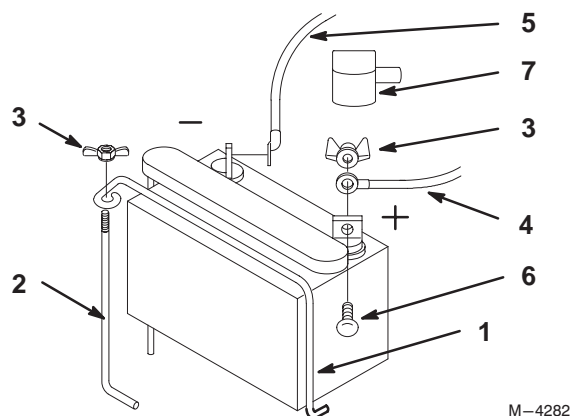

Figure 5
1. Mount the battery on the battery support with the terminal posts toward the gas tank (Fig. 5).
2. Secure the battery with the clamp, support rod, and wing nut (Fig. 5).
3. Slide the red terminal boot onto the red battery cable (Fig. 5).
4. Install the positive battery cable to positive (+) battery terminal and the negative battery cable to the negative (–) battery terminal and secure them with carriage bolts and locknuts (Fig. 5).